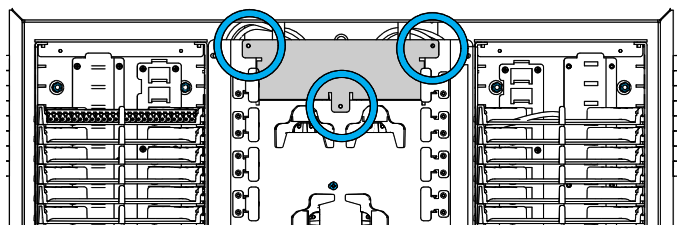

Figure 26. Top plate fastenings
16.3.2 Remove the top plate to access the subunits to free up slack. See Figure 26 for the top plate location.